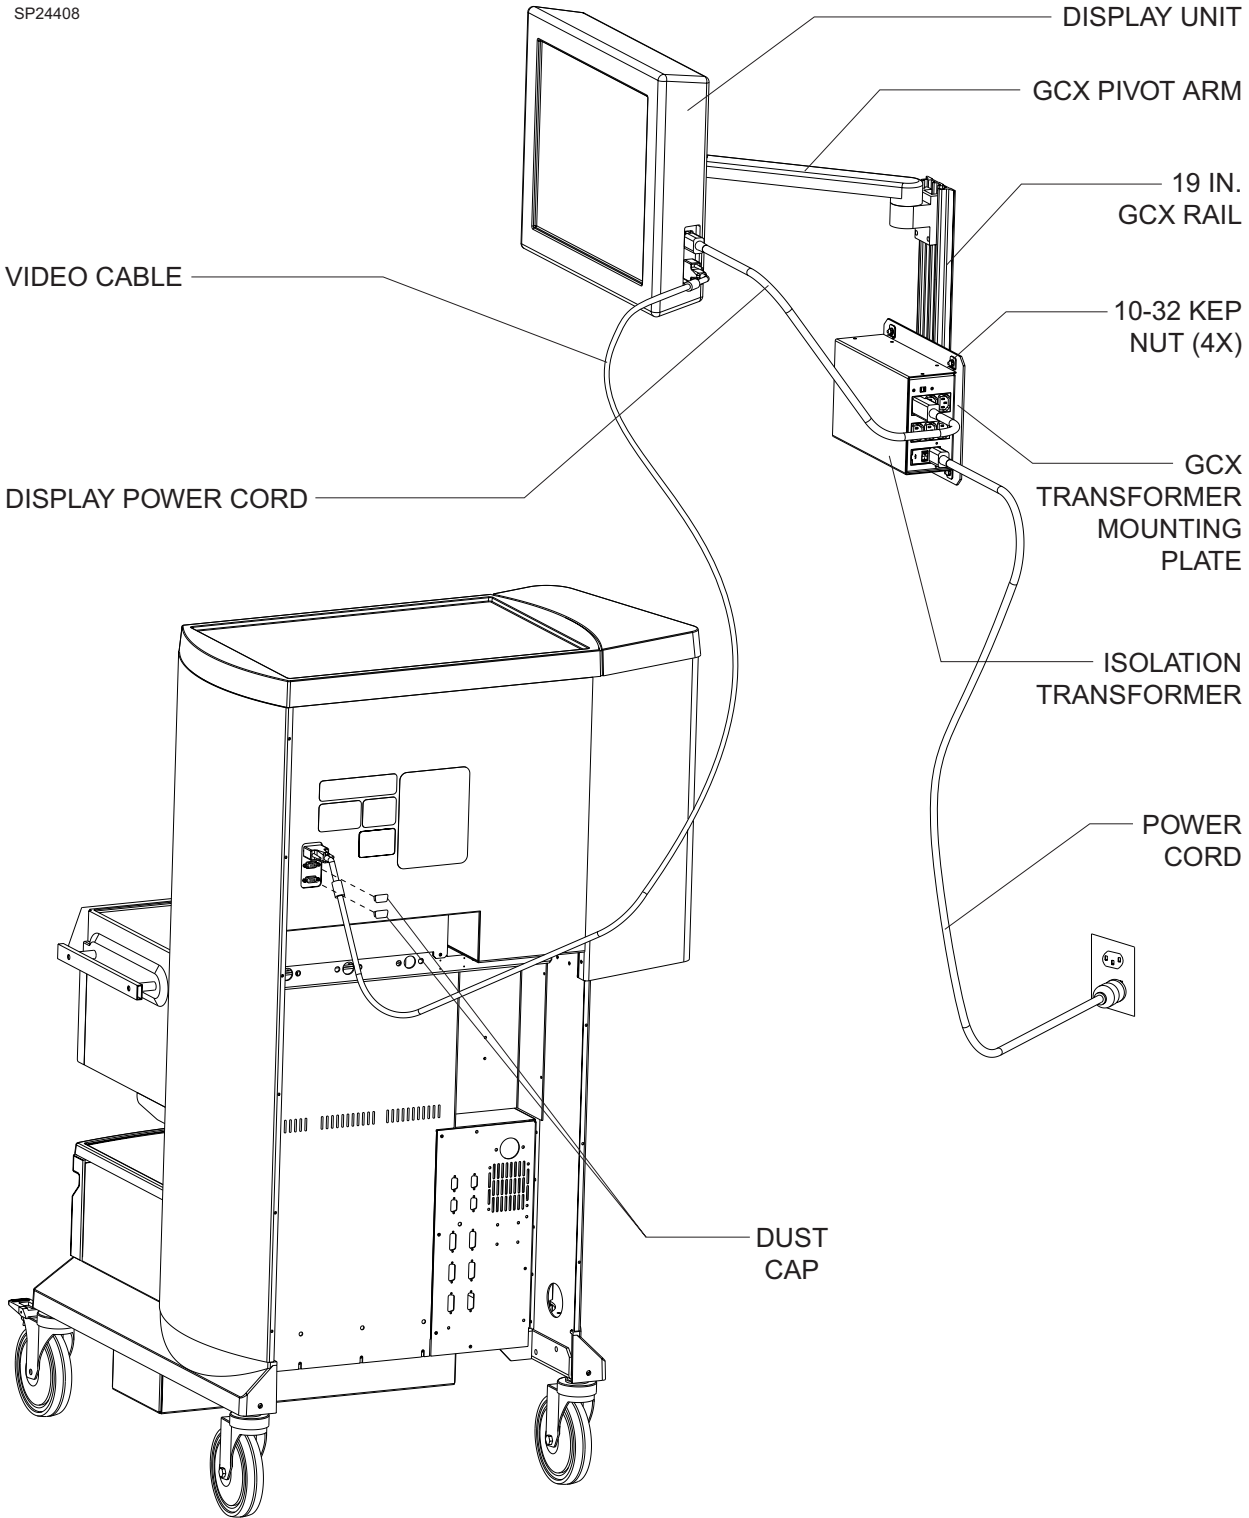

FIGURE 8. Wall-Mounted Display Installation
- 4.1 Attach the 19 in. GCX rail (4117778) to the wall at the desired height and location, using the hardware supplied by GCX. See Figure 8.
- 4.4 Attach the isolation transformer (4114985), oriented as shown in Figure 8, to the transformer mounting plate with four 10-32 Kep nuts.
- 4.5 Connect video cable from the display unit to the Video 1, Video 2, or Video 3 connector on the back of the machine as shown in Figure 8.
- 4.7 Connect the display power cord (4113389) from the display unit to the isolation transformer as shown in Figure 8.
- 4.8 Connect the 15 ft. power cord (4109600) to the isolation transformer as shown in Figure 8. Connect the other end of the cord to a hospital AC wall outlet.